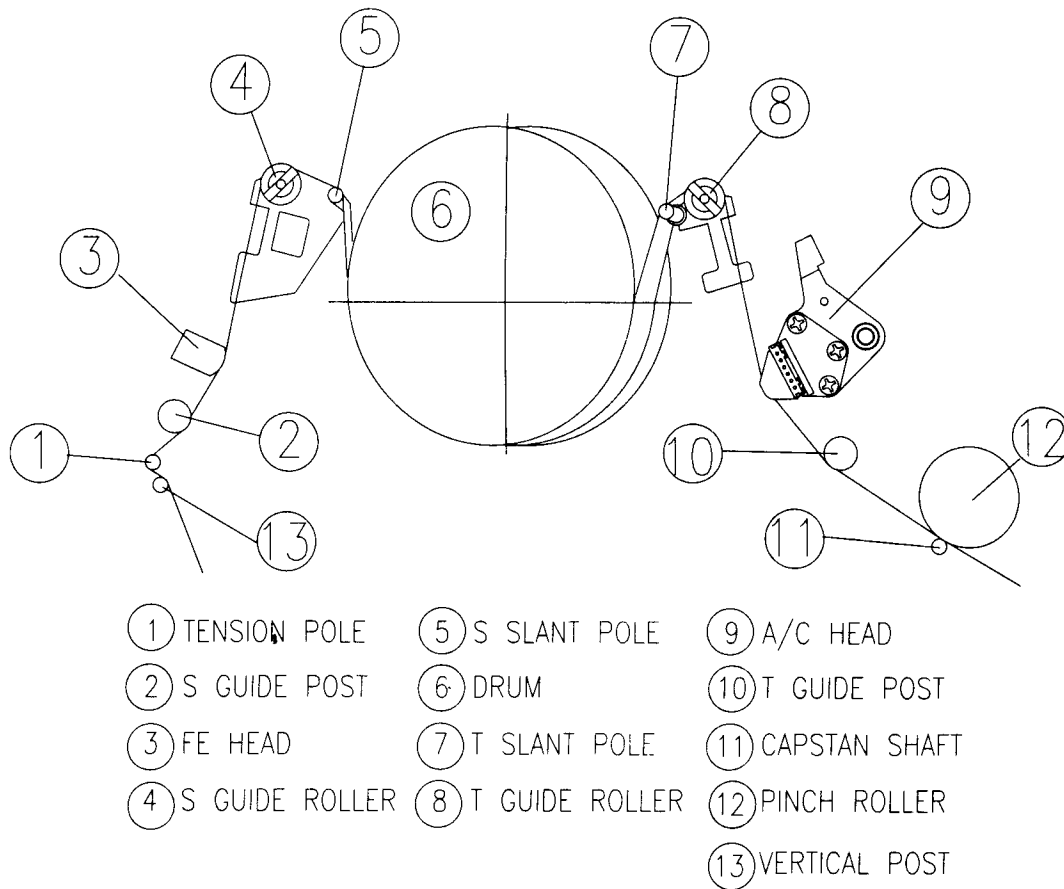

Fig. 5-1 THE SCHEMATIC DIAGRAM OF TAPE TRANSPORTING SYSTEM
When the parts as shown in Fig. 5-1 are replaced, the TAPE TRANSPORTING SYSTEM is changed. To prevent this, it is essential to know well thoroughly and observe the following INSTRUCTIONS.
- Play back a T-120 Tape and see the running condition of the TAPE at the lower flanges of the T GUIDE POST ASS'Y ① in Fig. 5-1.